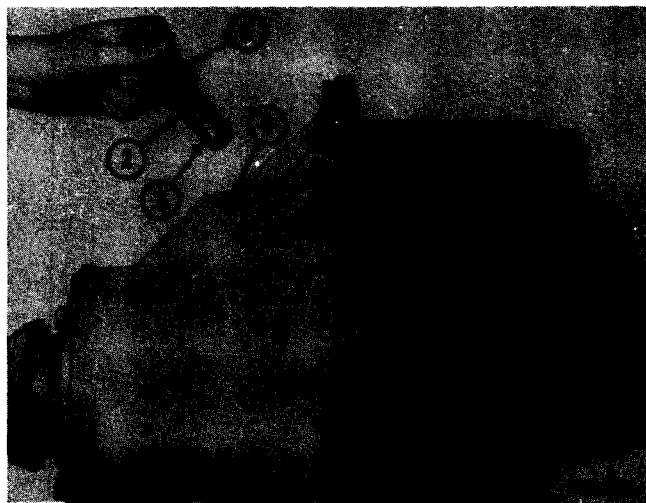

Figure 6-39
Inspect thrust block (3, Fig. 6-39) on lower end of thrust block adjusting screw (2) for excessive wear. Replace assembly if in doubt.
Start jam nut (1, Fig. 6-39) on adjusting screw (2) and thread screw into tapped hole in carrier (4).